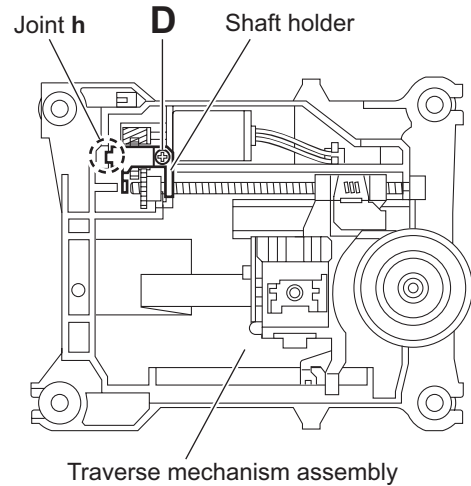

Fig.7
3.2.4 Removing the CD pickup (See Figs.7 to 9)
- (1) From the top side of the traverse mechanism assembly, remove the screw **D** attaching the shaft holder. (See Fig.7)
- (2) Release the joint **h** and take out the shaft holder. (See Fig.7)
3.2.5 Attaching the CD pickup (See Figs.7 to 10)
- (5) Attach the shaft holder. (See Fig.7)
- (3) Remove the screw **D** attaching the shaft holder and take out the shaft holder. (See Fig.7)